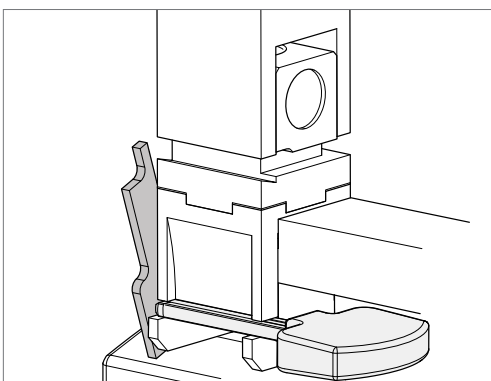

Fig. 44
- tracer point (original key) and up against the cutter (key blank), or use the stop bar up against the external right-hand side of the clamp (Fig. 44).